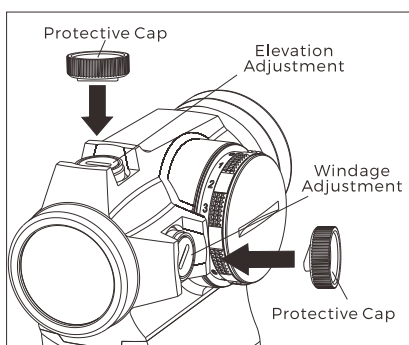

Fig 7
1. The elevation adjustment turret is on the top, the windage adjustment turret is on the right side (see Fig7). The sight has been factory adjusted for approximate zero at 25 yards.